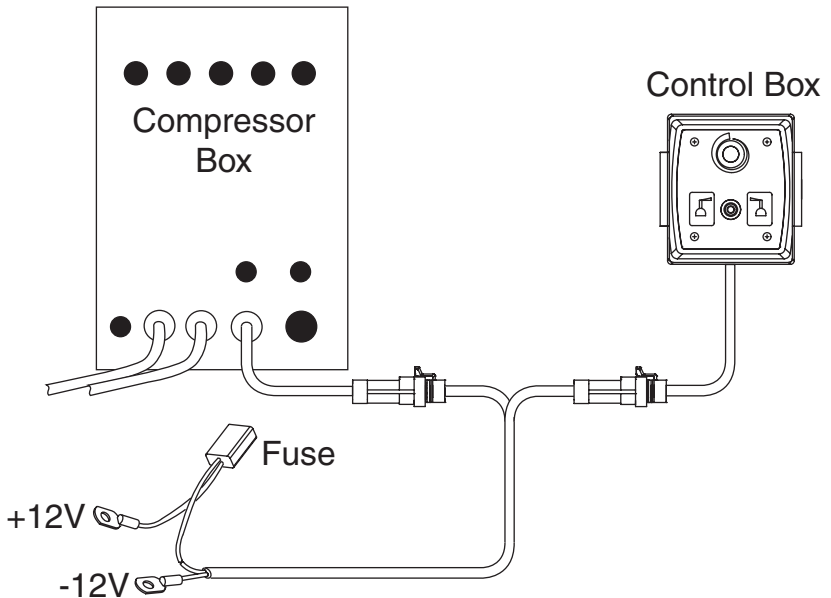

Fig. 3
2. Route wire harness from compressor box up to the double lead of the power supply cable and plug into the male plug (**Fig. 3**). On New Navigator sprayers, a 15' extension harness (HARDI® #26001903) is needed to reach the compressor box.
3. Route wire harness from Control Box down to the double lead of the power supply cable and plug into female plug (**Fig. 3**).
There is one 30 amp ATC fuse protecting the circuits of the HARDI® Foam Marker. It is located at the beginning of the power cable (**Fig. 3**).